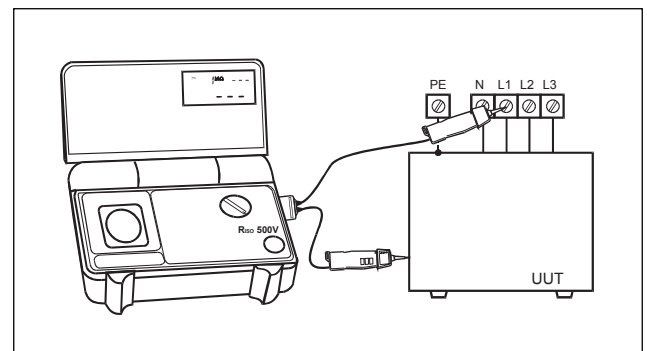

Fig.7.17
- Connect test probes of COMMANDER 2 (use measurement accessories, if required) to UUT and switch on UUT, see Fig. 7.17.